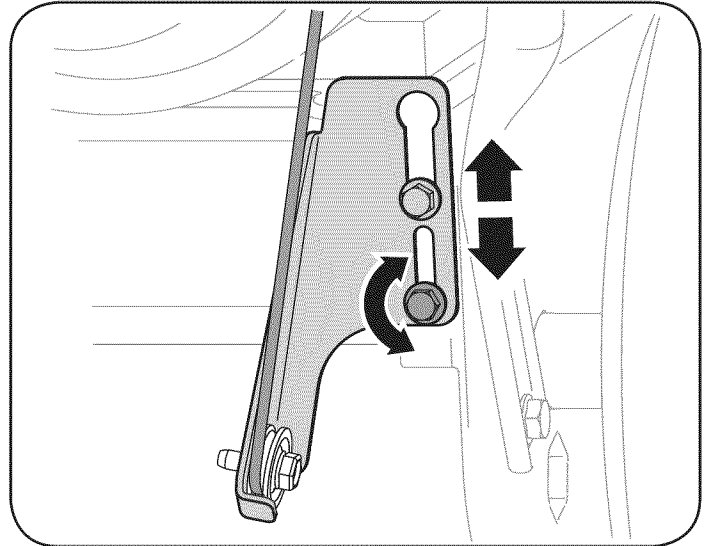

Figure 19
2. Loosen the lower hex bolt on the drive cable bracket. See Figure 19.